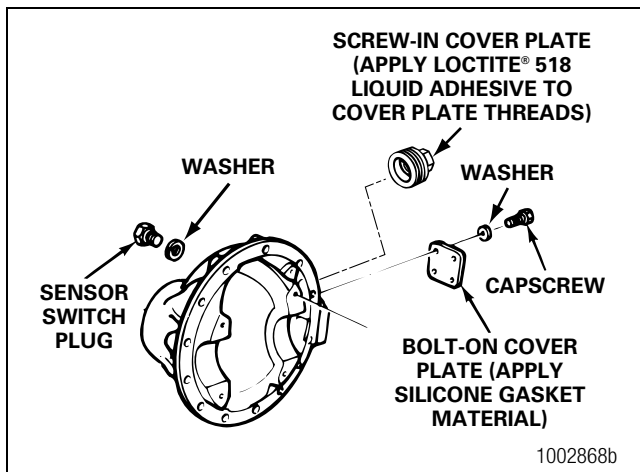

Figure 6.20
3. Install the four washers and capscrews. Tighten the capscrews to 7.4-8.9 lb-ft (10-12 N•m). Figure 6.20.